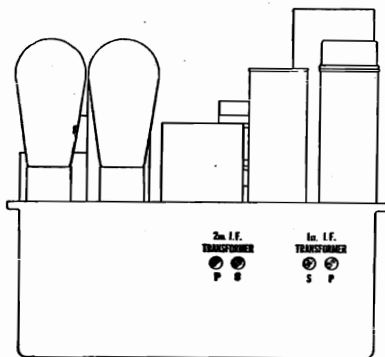

Figure 5—I. F. Alignment Location
I. F. Tuning Adjustments—Two transformers comprising four tuned circuits are used in the intermediate amplifier. These are tuned to 175 K. C. and the adjustment screws are accessible from the rear of the chassis. See Figure 5 for location of the adjustment screws and proceed as follows: